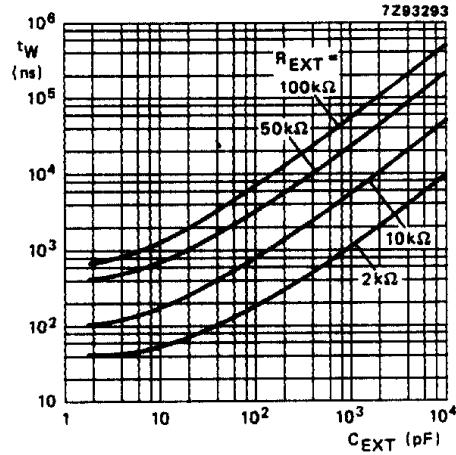

Fig.9 Typical output pulse width as a function of the external capacitor values at  $V_{CC} = 5.0$  V and  $T_{amb} = 25$  °C.
- For other  $R_{EXT}$  and  $C_{EXT}$  combinations see Fig.9.